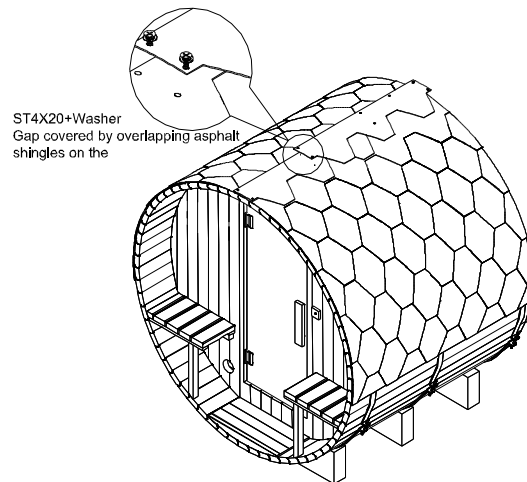

Figure 5
- (6) Cover tiles on both sides with tiles in the top middle. Tiles on the top cover each other and are fastened with screws. (as shown in Figure 5)